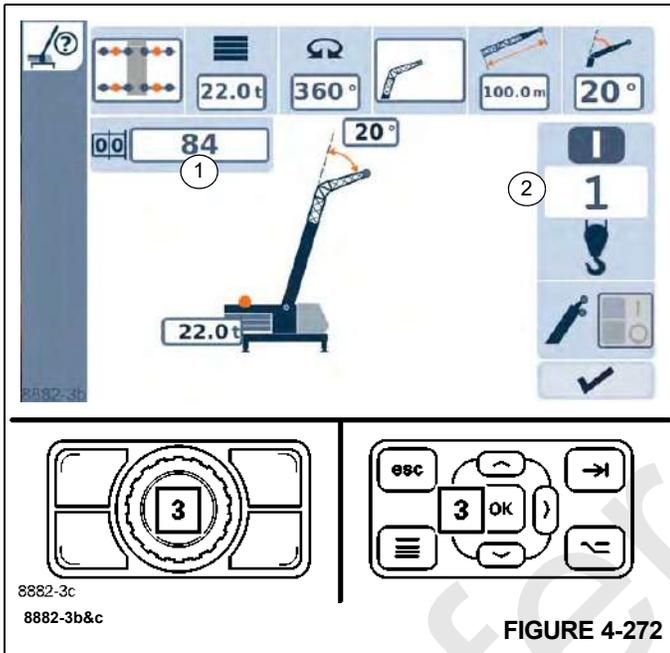
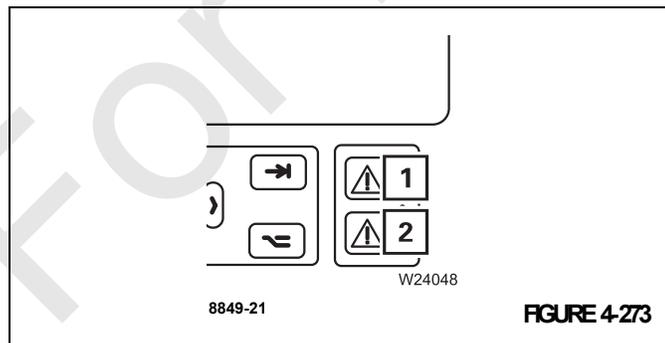

FIGURE 4-272
FIGURE 4-273
The last set rigging mode will be displayed, and symbols (1), (Figure 4-272) and (2), (Figure 4-272) will be green and flashing. **NOTE:** Be sure that the crane configuration has not been changed (or matches) the configuration for the code being displayed.
- Press button (3), (Figure 4-272) once – symbols (1), (Figure 4-273) and (2), (Figure 4-273) will stop flashing.
Lamps (1), (Figure 4-273) and (2), (Figure 4-273) will go out. The RCL code has been applied.